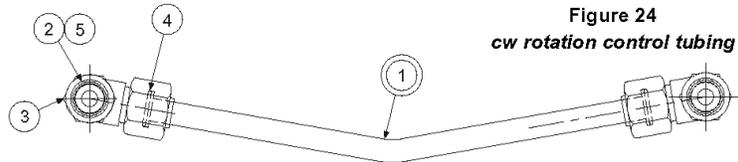

Figure 24
9. Install minimum stop screw (24) and turn clockwise to stroke pump to full volume. Measure height from control cap to top of screw (3). With control piston at full displacement, dimension must be .74 +/- .03 in., 18,8 +/- 0,76 mm. Back out minimum stop screw (24) till there is no contact with control piston.
10. Press dowel (30) into body (16), through the link (28), to 1/4, 6,35 mm below surface, apply hydraulic sealant to threads of screws (46) and install over dowel (30).
11. Press spool (21) into retainer (19). Caution: do not use excessive force. Place spool/retainer assembly into spool (17) with spring (18) and washer (34). Secure with retaining ring (33).
12. While sleeve (27) is engaged into dowel on link (28), slide above spool assembly into bore of body (16), and through sleeve (27). Spool (21) must move freely and easily at all positions of the link (28).
13. Install proportional valve (41) in block. Torque to 20 ft.\*lbs., 27 N.m.
15. Assemble all other components into body (16) per above drawing. Torque the plug (12).
16. While spring retainer is engaging clevis pin (5) under dowel of link (28), slide the other opening of spring retainer over the top of the screw (3). Attach body assembly (16) to cap (1) with two screws and torque to 75 lb.\*ft., 102 N.m.
17. Install tubing assembly (Figure 24, 25).
PARTS LIST FOR FIGURE 24